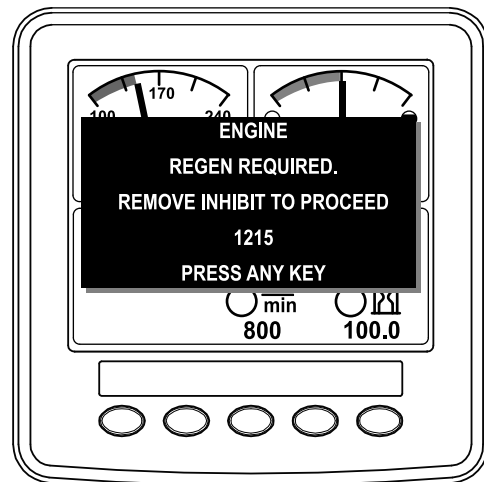

Figure 43
**Note:** If INHIBIT REGEN is set to ON, the InfoCenter displays ADVISORY #1215 (Figure 43). Press any button to set inhibit regeneration setting to OFF and continue with the reset regeneration.